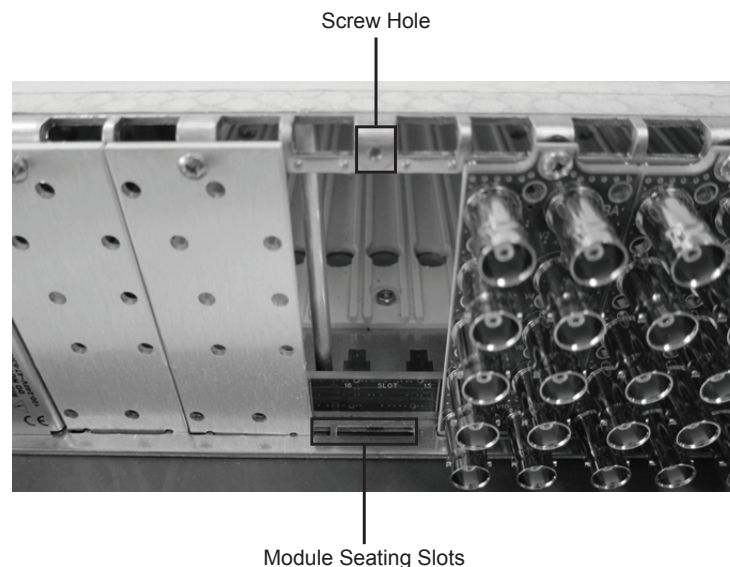

Figure 2.1 Rear Module Installation in an OG3-FR Series Frame (Card not shown)
4. Seat the bottom of the Rear Module in the **Module Seating Slot** at the base of the frame’s back plane. (**Figure 2.1**)